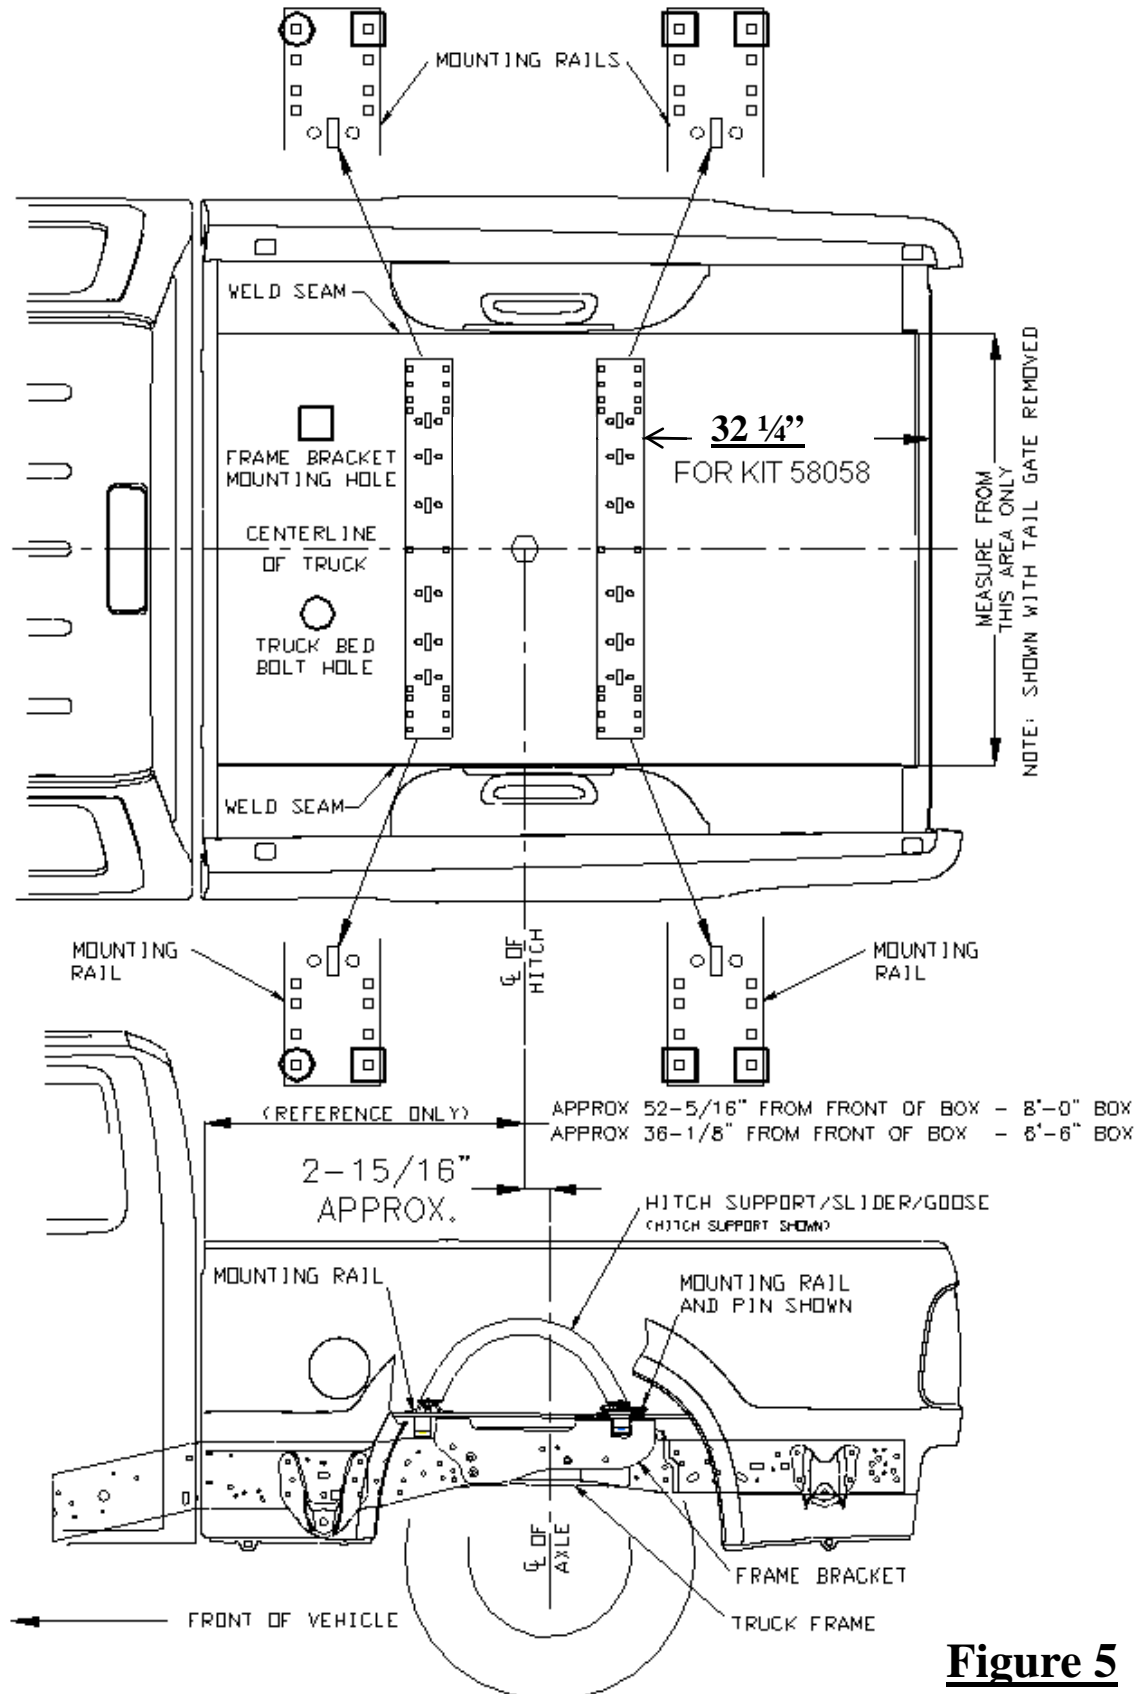

Figure 5
4. Place the rear mounting rail in the box of the truck. Using your tape measure, center the rail between the weld seams on the length of the truck box floor and the proper distance from the rear edge of the truck box as illustrated in Figure 5. See page 3 for mounting the brackets to the rails. See below for mounting the brackets to the frame.
5. Mark and center punch the holes as per the illustration in Figure 5. Move the rail out of the way and drill each position with a 1/8" drill bit. **Warning: When drilling holes be aware of potential risks, such as brake lines and fuel tanks, to vehicle components and make appropriate safe guards to protect them from damage.**